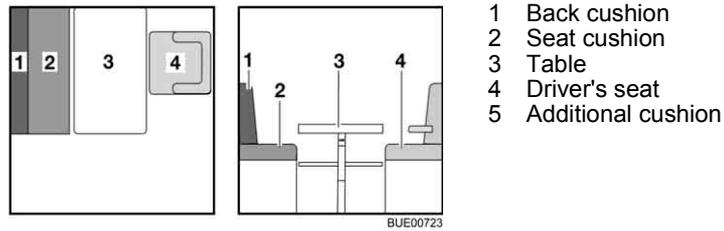

Fig. 110 Prior to conversion
- Turn the driver's seat (Fig. 110,4) and push it all the way forward.
- Convert the table (Fig. 110,3) to a bed foundation (see section 6.10).
- Lay the back cushion (Fig. 110,1) aside.